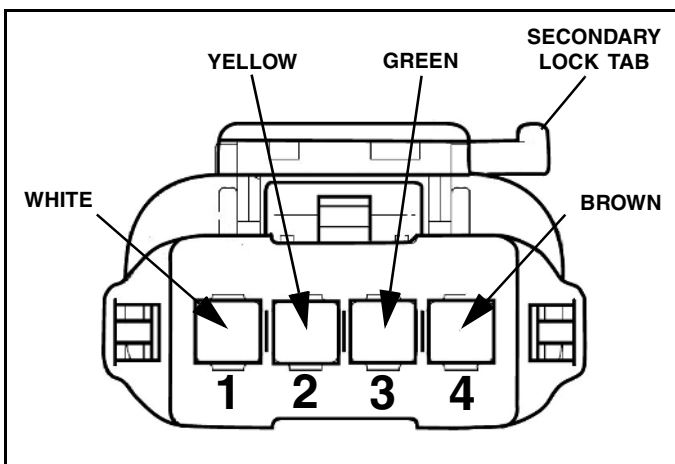

Figure 1-13
8. Remove blue pin lock from female connector. Push the pins on the end of each of the four wires into the back side of the connector (the end with recessed light blue seal). (See Figure 1-13 for pinning).
9. Verify wire placement by connecting the ProControl II™ harness. If wire colors do not line up, verify pin placement with (See Figure 1-13).